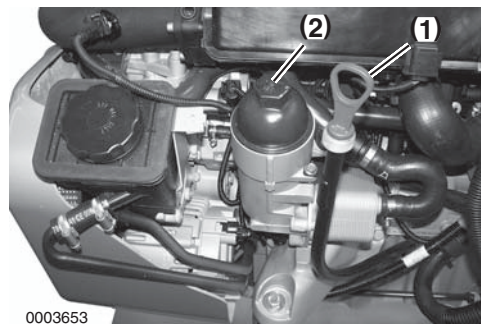

Figure 4-1
3. **NOTICE:** Prevent dirt and debris from contaminating engine oil. Carefully clean the dipstick and the surrounding area before you remove the cap. Loosen the engine oil filter cap (Figure 4-1, (2)) 1- 2 turns with a socket wrench. Allow to sit a few minutes to allow oil to drain into crankcase.
4. Remove the engine oil dipstick (Figure 4-1, (1)). Attach an oil drain pump and pump out the oil. Dispose of waste properly.